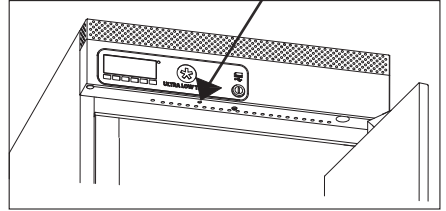

fig. 7
2. Use a pen to switch on the battery backup system in the hole shown on fig. 7